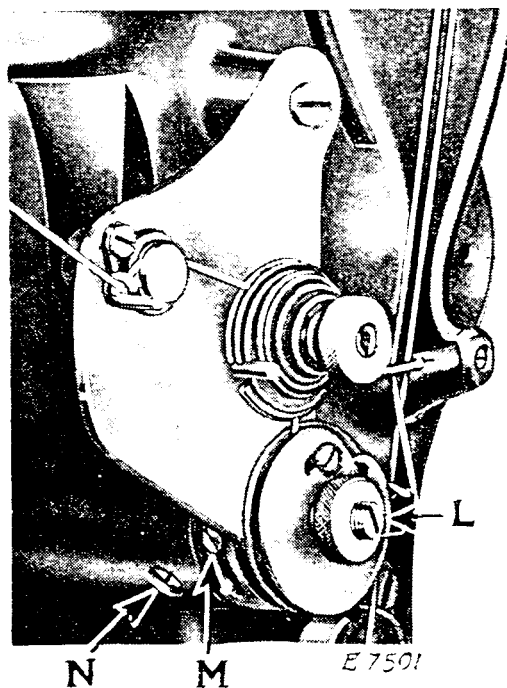

Fig. 13. Adjustment of Thread Controller
To change the thread controller spring stop for more controller action on the threads, loosen the pinch screw (M, Fig. 13) and turn the thread controller spring stop to the right; for less action, turn the thread controller spring stop to the left, after which securely tighten the pinch screw (M).
It may be found advisable to increase the tension of the thread controller spring for coarse thread, or to lessen it for fine thread. To increase the tension on this spring, loosen the tension stud set screw (N, Fig. 13), located nearly under the tension stud, and turn the tension stud (L, Fig. 13) slightly to the right with a screwdriver, or to decrease the tension, turn the tension stud (L) to the left and retighten the set screw (N).